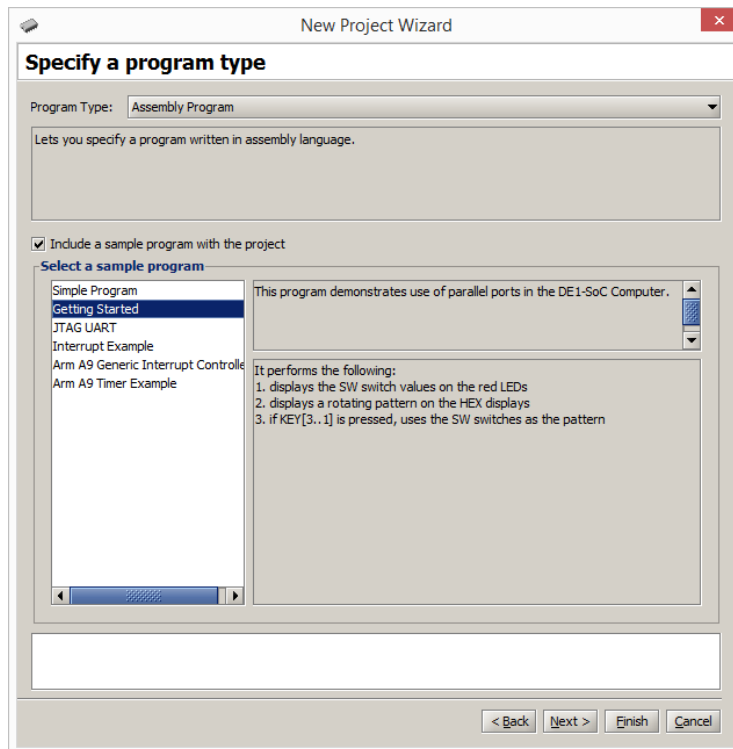

Figure 4: Selection of an application program.
4. In the window in Figure 4 you can specify the type of application programs that you wish to run. They can be written in either assembly language or the C programming language. Specify that an assembly language program will be used. The Altera Monitor Program package contains several sample programs. Select the box **Include a sample program with the project**. Then, choose the **Getting Started** program, as indicated in the figure, and click **Next**.
1. Create a new folder for this part of the exercise, with a name such as *Part2*. Create a file named *part2.s* and enter the code from Figure 9 into this file. Use the Monitor Program to create a new project in this folder; we have chosen the project name *part2*. When you reach the window in Figure 4 choose **Assembly Program** but do not select a sample program. Click **Next**.